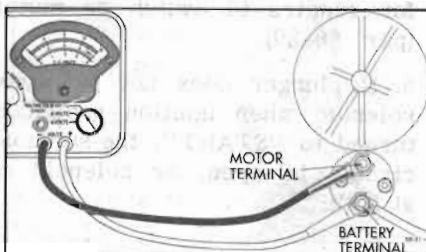

Figure 68-29—Solenoid Switch Contact Test Connections
6. With voltmeter switch turned to any scale above 12 volts, connect voltmeter negative (-) lead to the motor terminal or solenoid switch, and connect positive (+) lead to battery terminal of switch. See Figure 68-29.